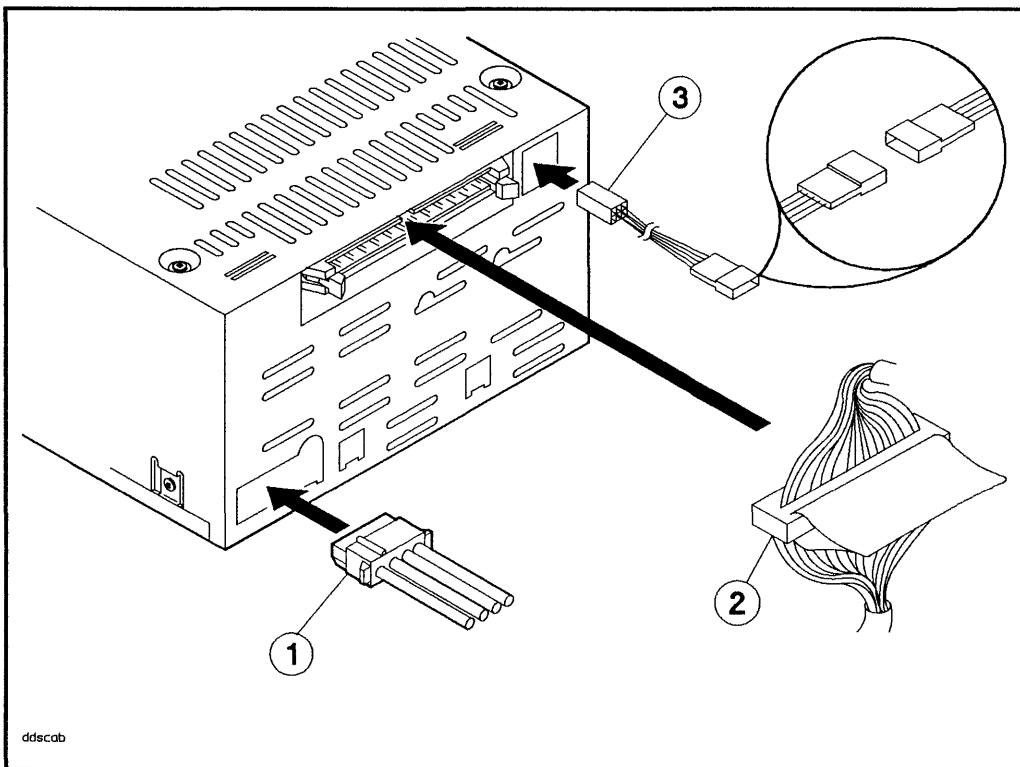

Figure 4-5. Connecting Cables to the DDS-format DAT Drive
On some older mass storage systems (Models 330D/S and 660D/S), the rear panel SCSI address switches are for hard disk drives only. For this reason, the device in your upgrade kit is shipped with necessary address jumpers or DIP switches installed. If you do not have a Model 330D/S or 660D/S mass storage system, these device address jumpers or DIP switches are not needed and can be removed. Connect the address cable in their place as shown in Figure 4-5.
1. Connect the appropriate address cable to the SCSI address cable on the drive (see Figure 4-5). The address cables in the mass storage system are numbered according to slot number.
2. Connect the internal SCSI cable to the drive (see Figure 4-5).